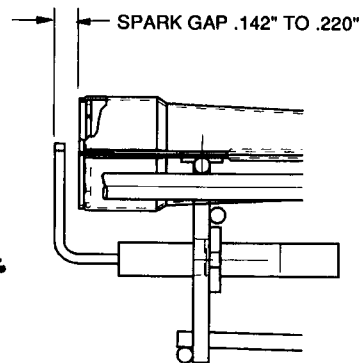

Fig. 34 — Spark Gap Adjustment
4. Adjust spark gap. See Fig. 34.